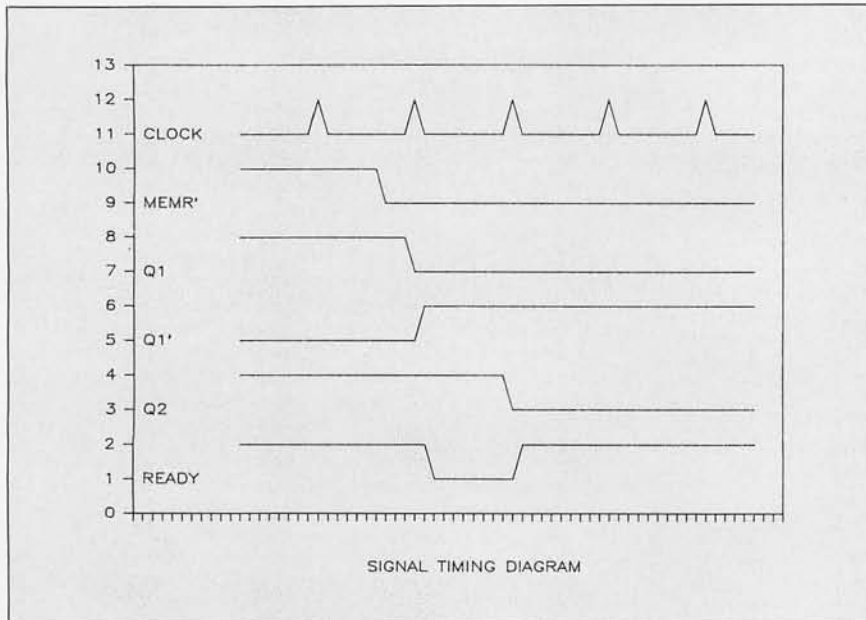

Figure 4: Timing diagram for edge-detector circuit.
The resulting graph of figure 4 is very easy to follow. It's now clear how the circuit works to put out a synchronized pulse when MEMR' goes negative. The next CLOCK signal (the second pulse of our figure) strobes the logical zero state into Q1, driving Q1' positive. Since Q2 is unaffected at this clock time, its output is still a logical one. With both inputs of the NAND gate now positive, its output goes negative, starting the READY signal pulse. The next CLOCK pulse strobes the logical zero output of Q1 into flip-flop Q2, sending its output to zero. This pulls the B input of the NAND to ground, sending its output positive and terminating the READY signal. It's clear that the READY signal will be exactly one clock period long, synchronized with the CLOCK signal.
The spreadsheet that generates figure 6 is shown in figure 7; it is similar to the sheet that generated figure 4. The section added at the top describes the circuit operating conditions. The input is a 5-volt (V) step, stored in cell E2. The resistor and capacitor values are in cells E4 and E5.